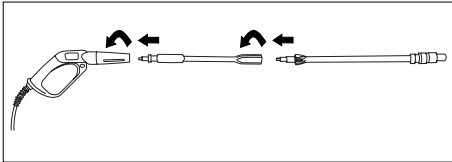

Figure 4 - Gun/Lance Connection
2. Insert adjustable lance into short lance and turn clockwise to positive stop as shown in Figure 4.